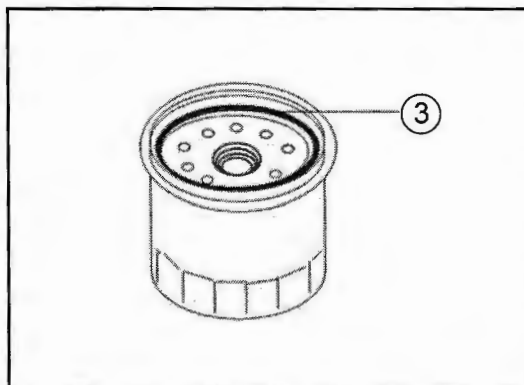

Fig. 39-3 - Fuel Filter
- Apply a thin film of oil to sealing ring (3). (See Fig. 39-3).